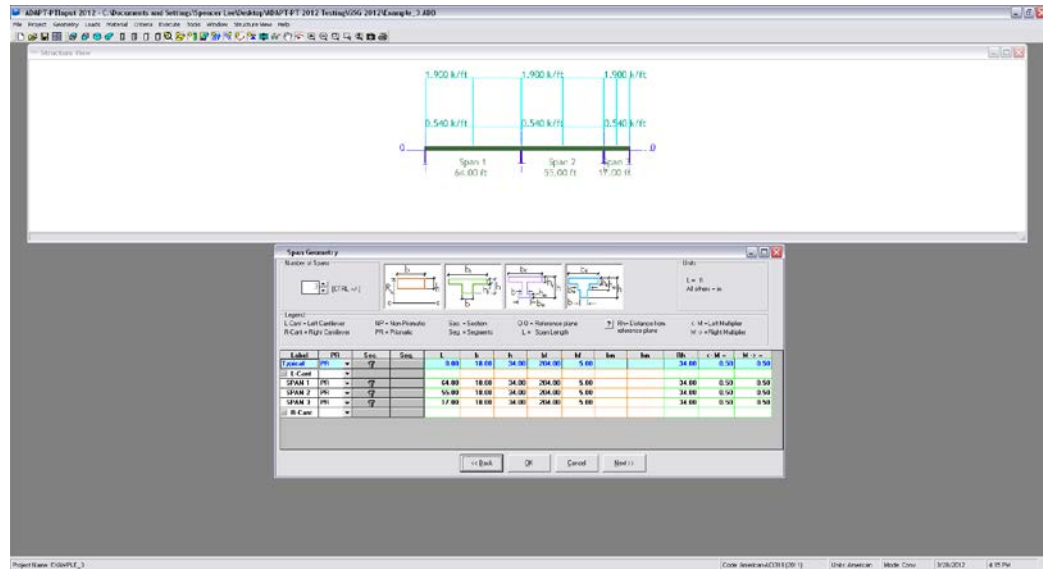

FIGURE 4.2-4
4.2.2.1 Enter Span Geometry (Fig. 4.2-4)
For the first span select the section, *Sec*, as **T-Section**, edit **64** ft (19.51 m) for length (*L*), **18** inches (457 mm) for width (*b*), **34** inches (864 mm) for height (*h*), **204** inches (5182 mm) (tributary width) for width of the flange (*b_f*) and **5** inches (127 mm) (thickness of the slab) for *h_f*. Repeat the same procedure for span 2 and span 3 by changing the values as shown in **Figure 4.2-4**.